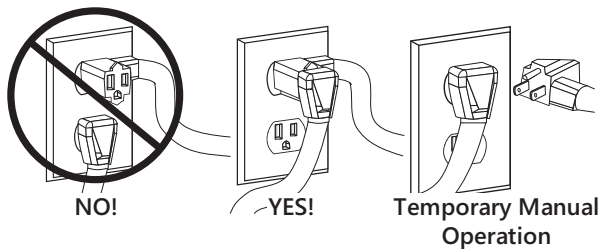

Figure 13. Piggyback Plug Installation
**All Pro370 and vertical discharge 380-Series models** come factory-equipped with the float switch mounted on the QuickTree assembly. These models come with two cords—one to the float switch and the other to the pump motor. The switch cord has a series (piggyback) plug enabling the pump (motor) cord to be plugged into the back of it (Figure 13). The purpose of this design is to allow manual operation of the pump.